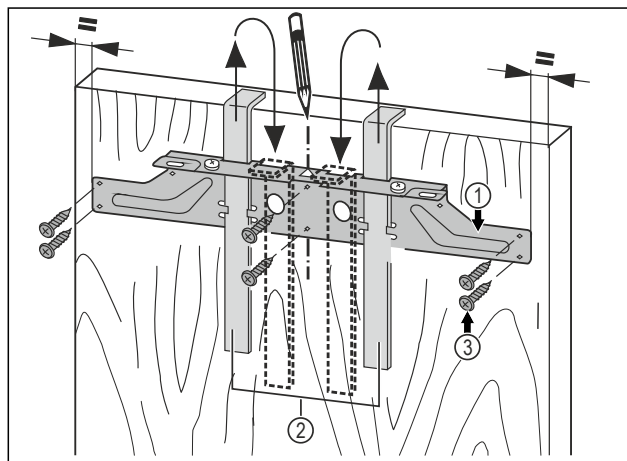

Fig. 42
- Hang the fastening bar *Fig. 42 (1)* with the mounting aids on the inside of the unit door *Fig. 42 (2)*.
- Align the fastening bar *Fig. 42 (1)* in the centre of the door.
- Tighten the mounting bar *Fig. 42 (1)* with at least 6 screws *Fig. 42 (3)*.
- Screw the mounting bar *Fig. 42 (1)* to the edge with 4 screws *Fig. 42 (3)*.
- Pull the assembly devices *Fig. 42 (2)* upwards and push them, at an angle, into the receiving openings.